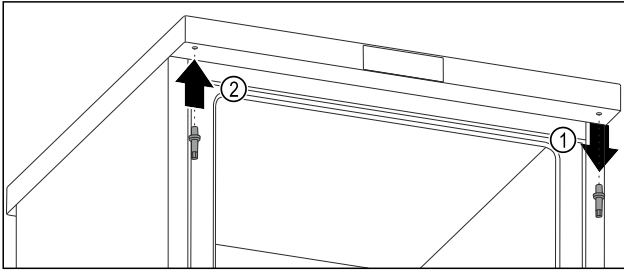

Fig. 12
- ▶ Unscrew the upper bolt with an Allen key. Fig. 12 (1)
- ▶ Tighten the bolt on the opposite side with an Allen key. Fig. 12 (2)